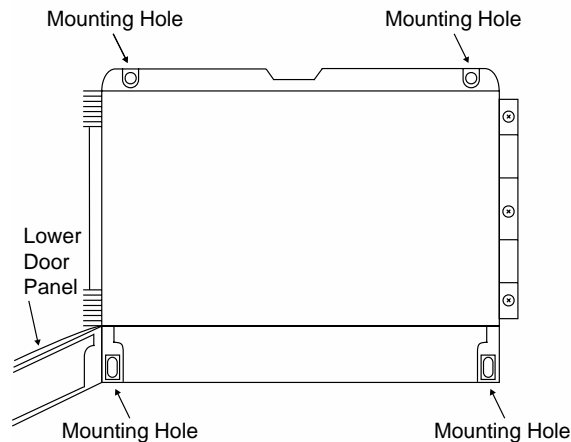

Figure 1. Controller Mounting Holes Location
- Prepare a section of wall approximately 11" x 13" (280 mm x 330 mm) for controller mounting by marking with a pencil the mounting holes (shown in *Figure 1*) on the wall.